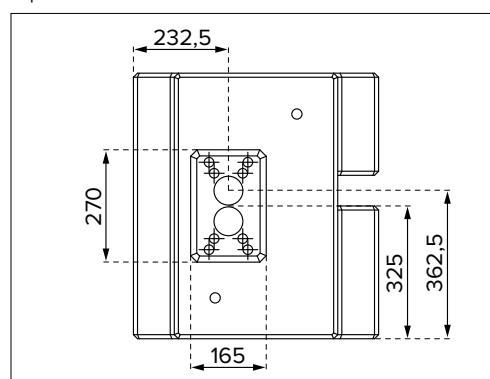

Fig. 3: Dimensions of prefabricated foundation [mm] - Top view
The asymmetrical positioning of the foundation block allows installing the device close to the curb (In the Figure 3: Providing curb on the left side).
► "Fig. 3: Dimensions of prefabricated foundation [mm] - Top view"